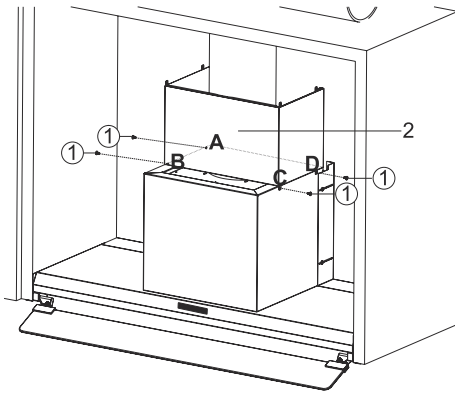

Fig. 15
- 5.** → Place the supplied sheet metal flues on the product (Fig. 15).
Using the 4 connection screws through the A, B, C, D points to the appliance body (Fig. 15).